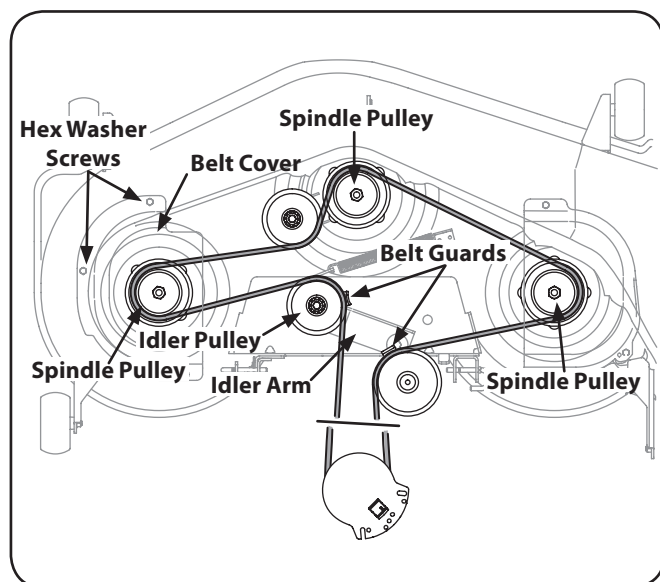

Figure 7-12
2. Remove the hex washer screws securing the belt covers to the deck. See Figure 7-12.
5. Install the new belt around the spindle pulleys as shown and reinstall the belt covers. See Figure 7-12.
7. Route the belt as shown in Figure 7-12 and then reinstall the deck (refer to Deck Installation on page 30).